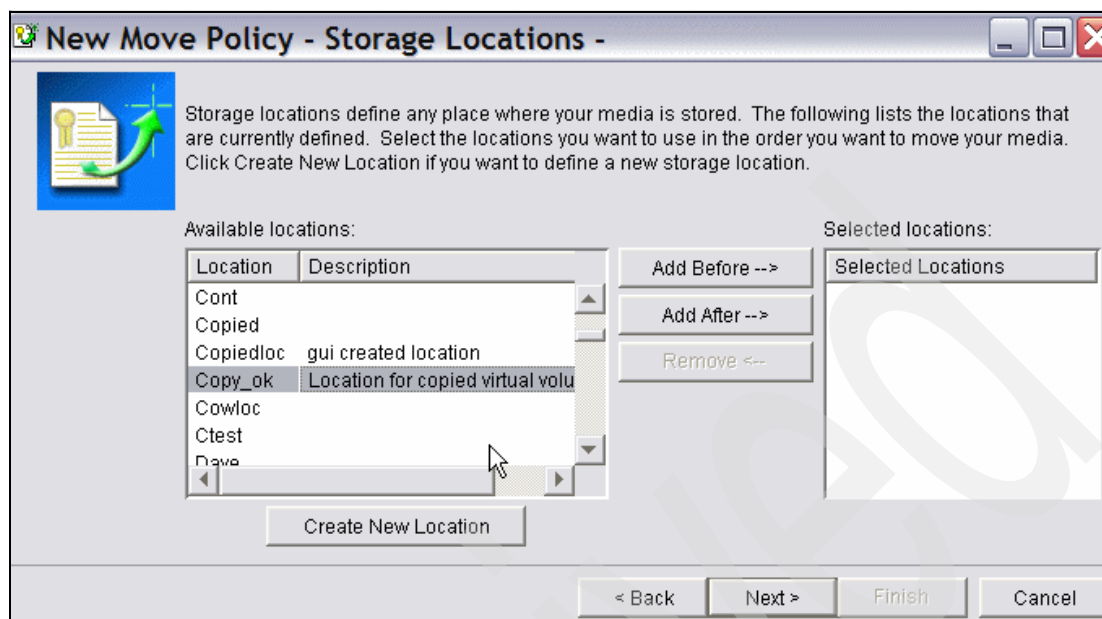

Figure 5-45 BRMS virtual move policy, add in location order
3. In the Storage Locations window shown in Figure 5-45 on page 233, select the location into which the volume will go into after being duplicated. In this scenario, it is **Copy_ok**. Click **Add Before** or **Add After**, and then click **Next**.